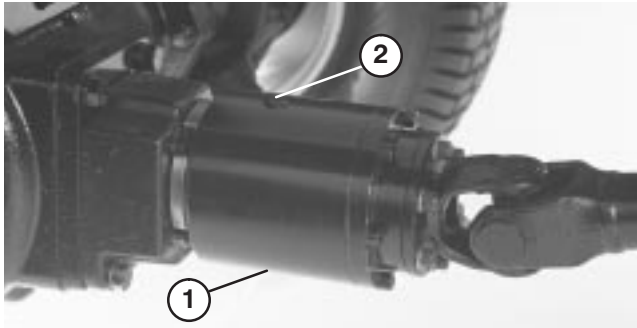

Figure 51
3. Rotate clutch so check plug is positioned downward (Fig. 51).